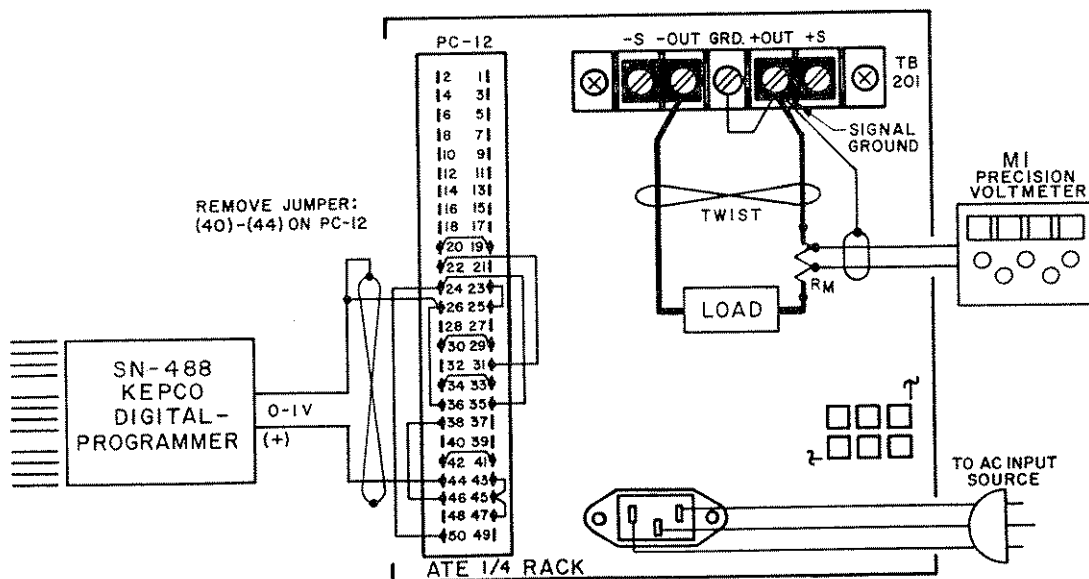

FIG. 3-11 CONNECTIONS FOR OUTPUT CURRENT CONTROL WITH A 0-1 VOLT CONTROL SIGNAL (KEPCO SN-488 DIGITAL PROGRAMMER).
- 3-58 GENERAL. The ATE output current, controlled by a front panel CURRENT CONTROL rheostat in the local control mode, can be remotely controlled by disconnecting the 15V bias from the non-inverting input of the EXT. CURRENT COMPARISON AMPL at the REAR PROGRAMMING CONNECTOR, and applying a 0 to 1 volt external control signal with reference to the ATE COMMON terminal. Since the non-inverting input of the EXT. CURRENT COMPARISON AMPL is used, only the small amplifier bias current must be supplied by the external control source. IN ALL CURRENT PROGRAMMING APPLICATIONS, THE FRONT PANEL CURRENT CONTROL SETTING OF THE ATE ACTS AS A "BACK-UP" CURRENT LIMIT AND MUST BE SET SLIGHTLY HIGHER THAN THE REQUIRED MAXIMUM OUTPUT CURRENT. An application, demonstrating this control method is described in PAR. 3-60 and illustrated in FIG. 3-11.
- 1) Connect the EXT. CONTROL VOLTAGE, (Model SN-488 Digital Programmer), the LOAD and the PRECISION VOLTMETER (M1) to the ATE as shown in FIG. 3-11.
Note: The output current value can be measured directly by means of a suitable ammeter in series with the load or, as indicated in FIG. 3-11, indirectly by means of the precision voltmeter (M1) across a current measuring resistor ( $R_M$ ).  $R_M$  should be selected such that a convenient range on the precision voltmeter can be used, e.g., for a 10 ampere output current, use a 0.1 ohm, resistor to produce a one volt full scale reading. If an electronic voltmeter is used, it should be battery-operated to avoid ground loops.